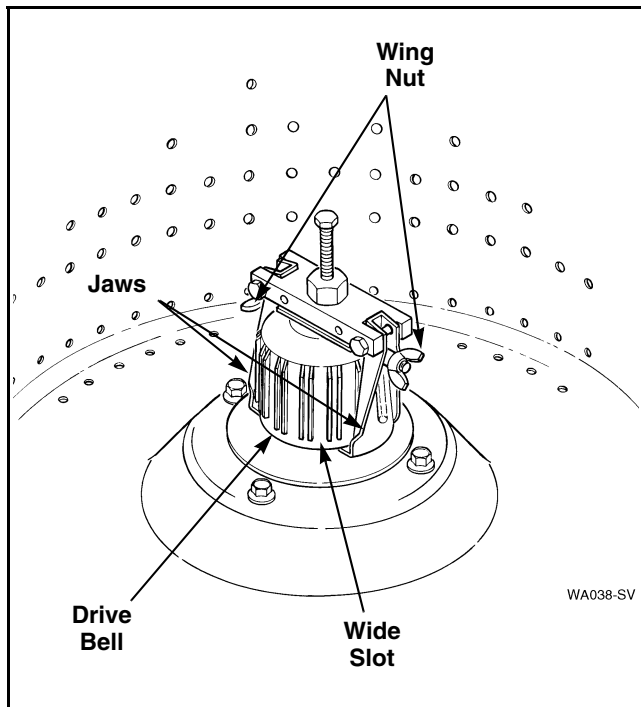

Figure 14
- f. Place tool over the bell, making sure indent on jaw lines up with wide slots on the bell. Refer to *Figure 14*.
- h. Place lip of each jaw under bottom edge of drive bell, making sure indent on jaw lines up with wide slots on bell. Then tighten the two wing nuts to hold jaws firmly against drive bell. Refer to *Figure 14*.